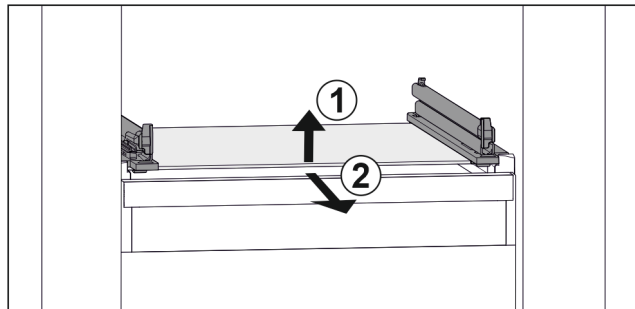

Fig. 167 Example illustration of glass shelf
- ▶ Lift glass shelf at the front. Fig. 167 (1)
- ▶ Take out glass shelf to the front. Fig. 167 (2)